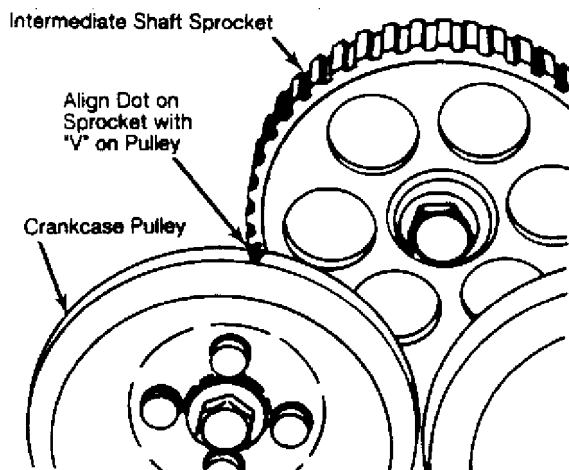

Fig. 3: Aligning Intermediate Shaft & Crankshaft
1) Set crankshaft at point just before TDC compression for No. 1 cylinder. Place timing belt on crankshaft and intermediate shaft sprockets. Install crankshaft pulley and tighten all 4 bolts. Align mark on crankshaft pulley with mark on intermediate shaft sprocket at No. 1 TDC. See Fig. 3.